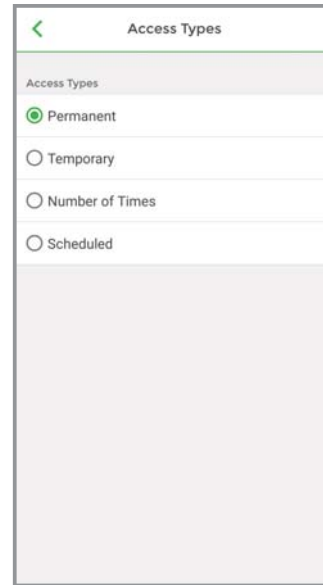

Figure 3
i. **Access Type** : (4 options) (See Figure 3)